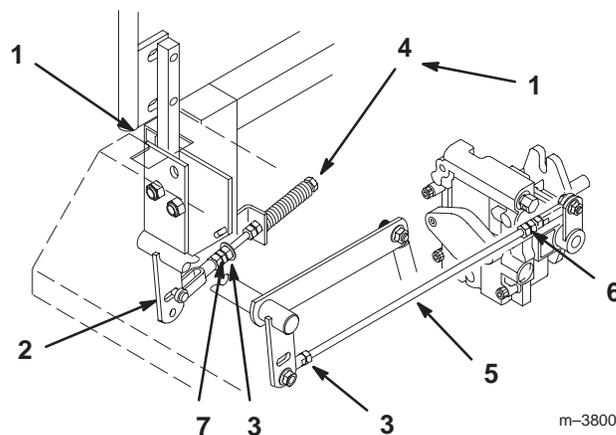

Figure 40
2. Begin with either the left or right motion control lever. Move lever to the neutral (but not locked) position and pull lever back until the clevis pin (on arm below pivot shaft) contacts the end of the slot (just beginning to put pressure on spring) (Fig. 40).
3. Check where lever is relative to notch in console (should be centered allowing lever to pivot outward to the neutral lock position) (Fig. 40).
5. Loosen locknut at ball joint on pump control rod (Fig. 40).
6. Adjust pump rod length by rotating double nuts on rod, in the appropriate direction, until wheel is still or slightly creeps in reverse (Fig. 40).